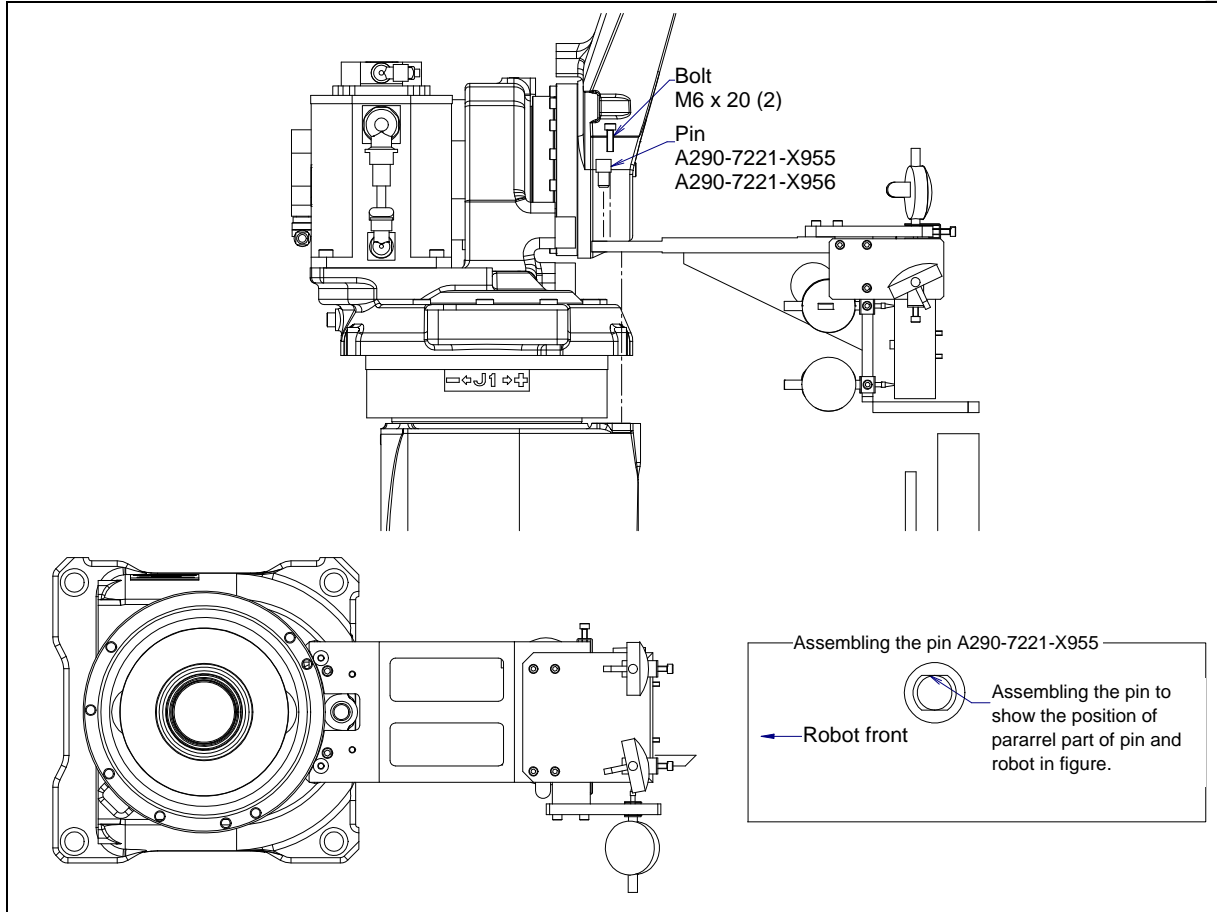

Fig. 9.4 (c) Assembling the fixture base
- 4 Assemble the fixture to the wrist flange as shown in Fig. 9.4 (d) and (e).